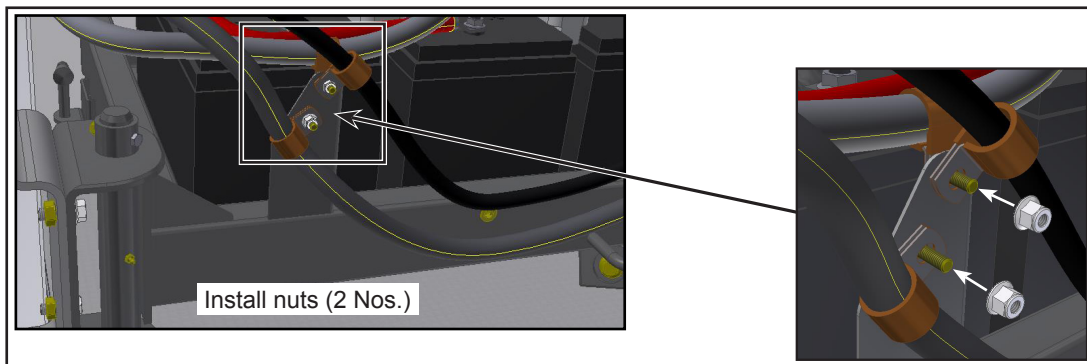

Figure 9 - Typical Installation of Flange Nuts (2 Nos.)
1.27. Install the retained flange nuts (2 Nos.) mounted on battery (see Figure 9).